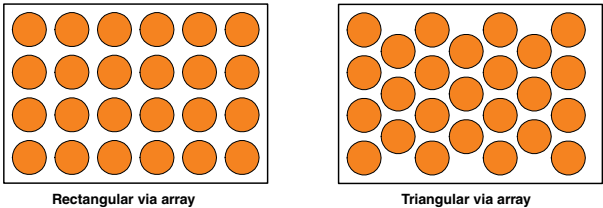

Figure 19: Rectangular and Triangular via arrays
**Pattern: Rectangular array.** Notes – There are two possible uniform patterns, designated Rectangular Array and Triangular Array respectively, and shown in Figure 19. For optimum design, it must be determined which pattern places the most via holes under a chip. This consideration can become fairly complex, since vias that are even partially under a chip can still contribute significantly to heat conduction. Although details are beyond the scope of this discussion, AVX has developed some useful algorithms to aid in optimum via-patch design; customer assistance is available from the factory. For most – but not all – situations, the rectangular array yields better results than its triangular counterpart.